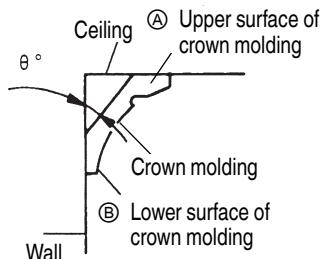
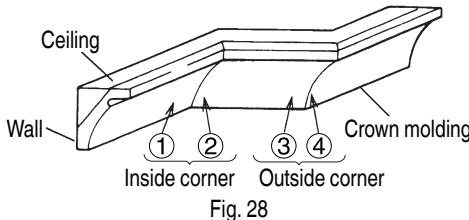

Fig. 27
Fig. 28
Fig. 27 shows two common crown molding types having angles of (θ) 38° and 45°.
For the typical crown molding fittings, see Fig. 28.
To process crown molding at positions ① and ④ in Fig. 28.
To process crown molding at positions ② and ③ in Fig. 28.
- (1) Setting to cut crown moldings at positions ① and ④ in Fig. 28 (see Fig. 29; tilt the motor head to the left):
- ① Turn the turntable to the right and set the Miter Angle as follows:
- ② Tilt the motor head to the left and set the Bevel Angle as follows:
- ③ Position the crown molding so that the upper surface (Ⓐ in Fig. 27) contacts the fence as indicated in Fig. 31.
- (2) Setting to cut crown moldings at positions ② and ③ in Fig. 28 (see Fig. 30; tilt the head to the left):
- ① Turn the turntable to the left and set the Miter Angle as follows:
- ② Tilt the head to the left and set the Bevel Angle as follows:
- ③ Position the crown molding so that the lower surface (Ⓐ in Fig. 27) contacts the fence as in Fig. 32.